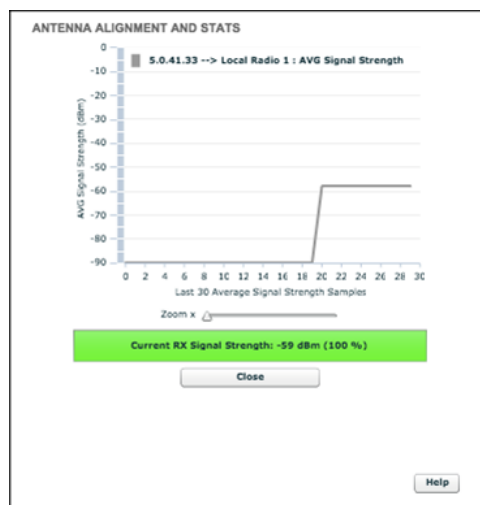

Figure 21. Antenna alignment and stats tool
- The **ANTENNA ALIGNMENT AND STATS** tool will be shown (Figure 21 (page 50)).